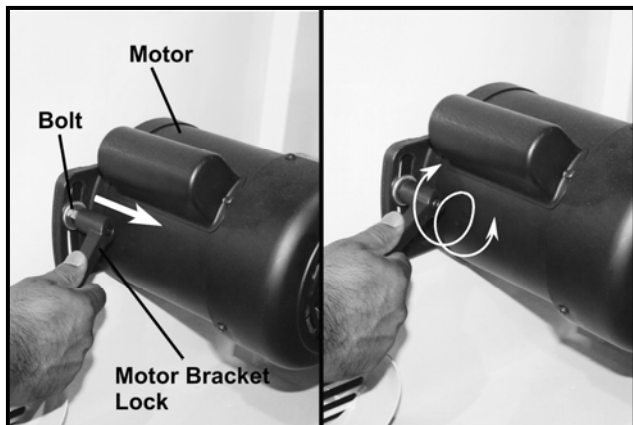

Figure-33 Loosening motor bracket lock
5. Loosen the motor bracket lock and bolt, shown in figure-33 and idler pulley mounting nut shown in figure-33.